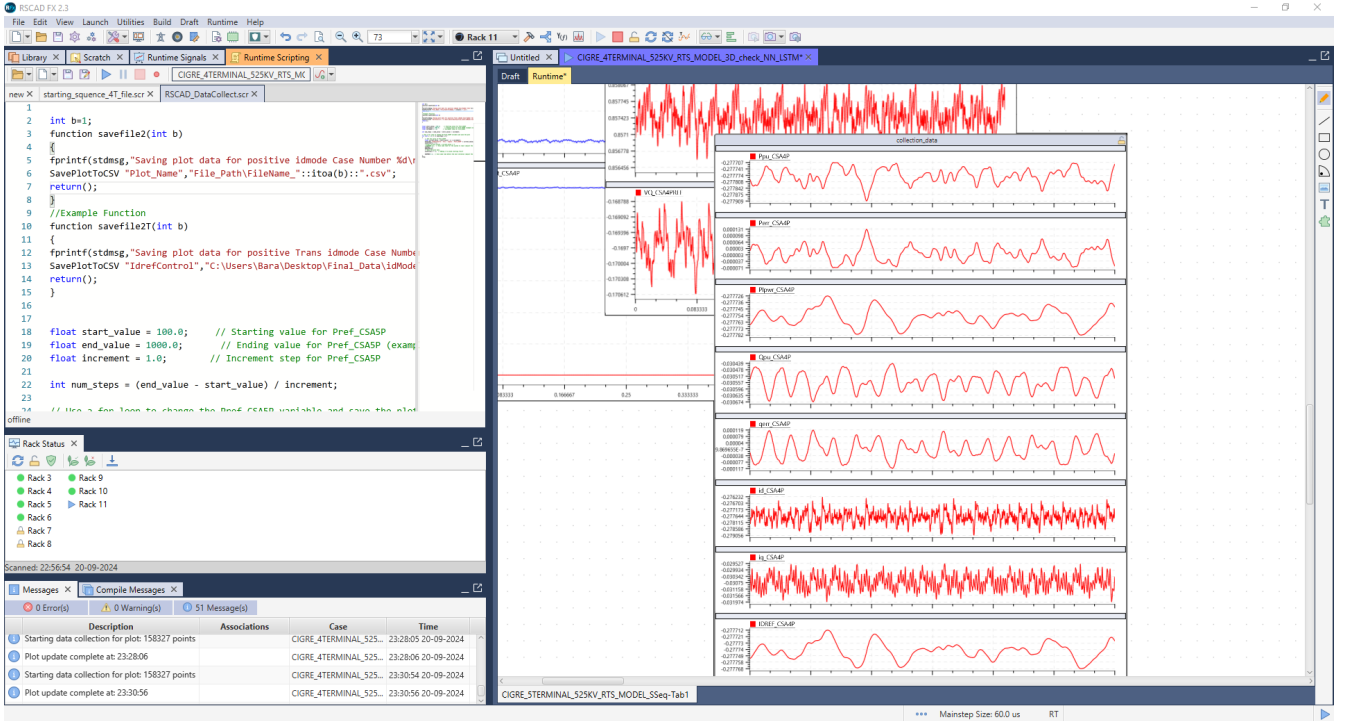

Figure 4.4: Collection of data plot.
1. Saving files: Get the Data from the runtime. Since the text converter in our case is CSA4, it is necessary in runtime to plot in a diagram AC current value, and its error, furthermore, active and reactive powers and their errors, and also outer voltage control PI input and output parameters. These parameters are: Ppu_CSA4P, Perr_CSA4P, PIpwr_CSA4P, Qpu_CSA4P, qerr_CSA4P, IQREFq_CSA4P, id_CSA5P, iderr_CSA4P, outpi1_t_CSA4P, iq_CSA4P, iqerr_CSA4P, outpi2_t_CSA4P. Rename the plots e.g. to ‘collection_data’ as seen in Fig. 4.4.